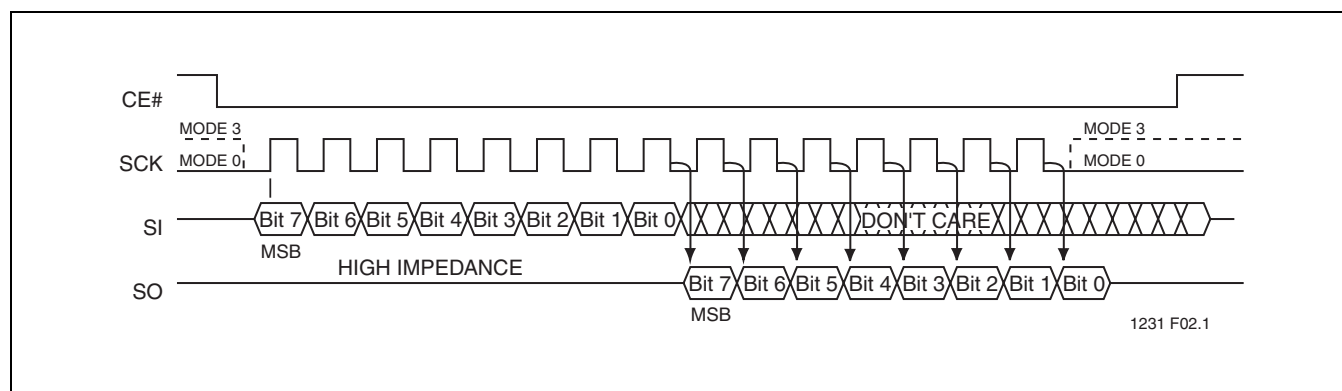

FIGURE 3: SPI Protocol
The SST25VF020 supports both Mode 0 (0,0) and Mode 3 (1,1) of SPI bus operations. The difference between the two modes, as shown in Figure 3, is the state of the SCK signal when the bus master is in Stand-by mode and no data is being transferred. The SCK signal is low for Mode 0 and SCK signal is high for Mode 3. For both modes, the Serial Data In (SI) is sampled at the rising edge of the SCK clock signal and the Serial Data Output (SO) is driven after the falling edge of the SCK clock signal.